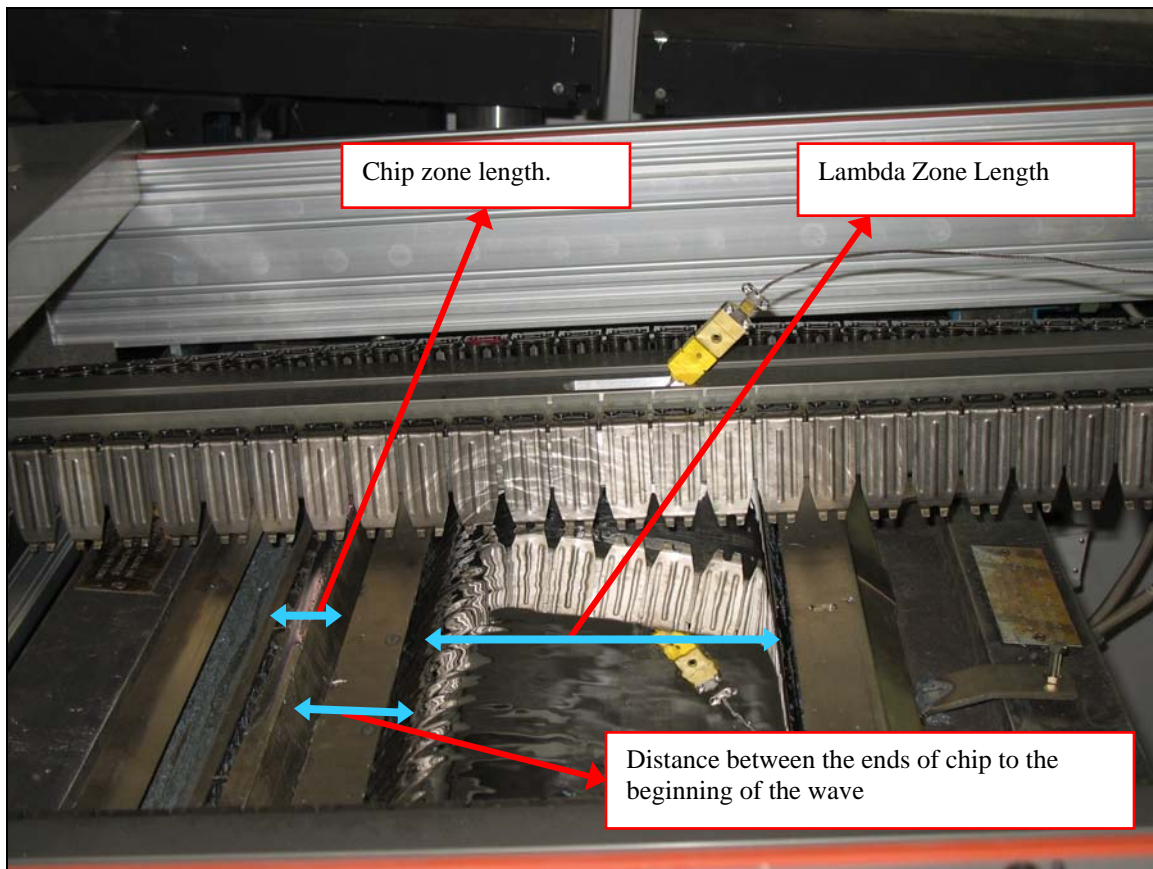

Figure 113: Dual-wave Wave Solder Machine - Wave measurements
1. Enter the measurements for the required items listed below: See Figure 113 for details of each required measurement.